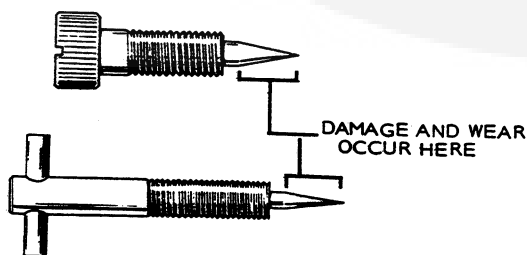

FIGURE 21. MIXTURE NEEDLE INSPECTION
- Check the condition of any needle valve not included in repair kit and replace if damaged (Figure 21). Replace float if loaded with fuel or damaged.